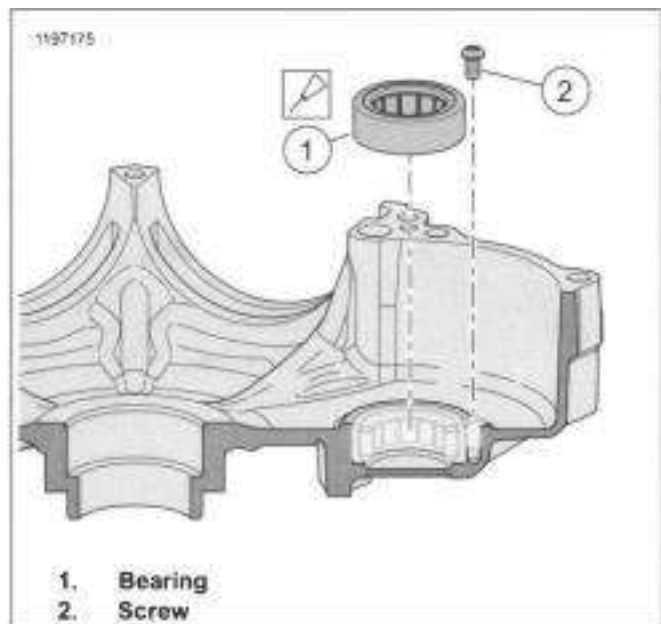

Figure 4-68. Balancer Bearing (typical)
1. See Figure 4-68. Remove retaining screw (2).